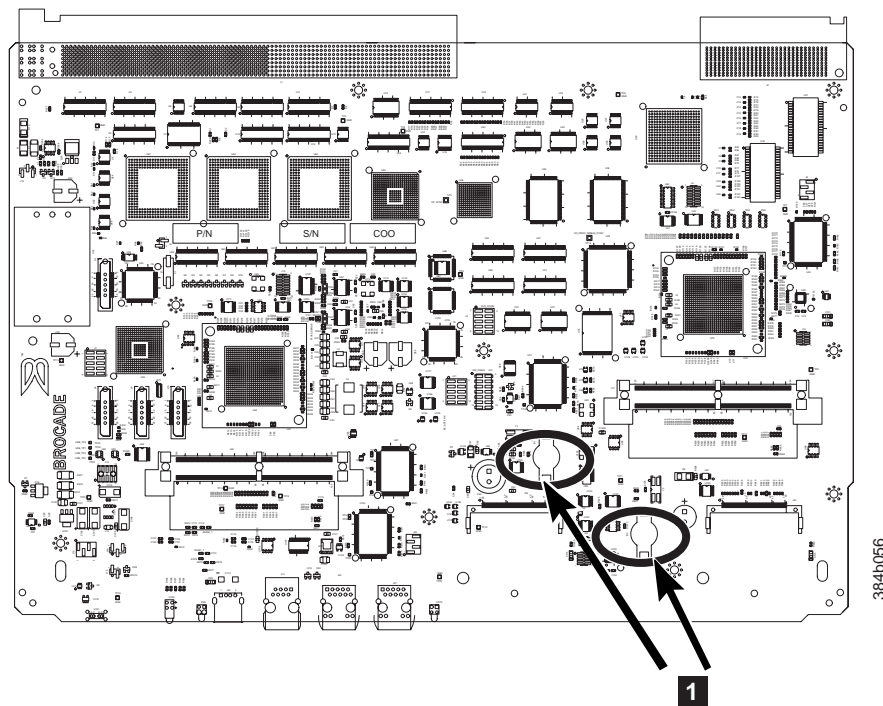

Figure 42. Battery locations on the SAN768B
6. Go to the following locations and remove the two BR1225 batteries from each of the PCBAs (see **1** in Figure 42):